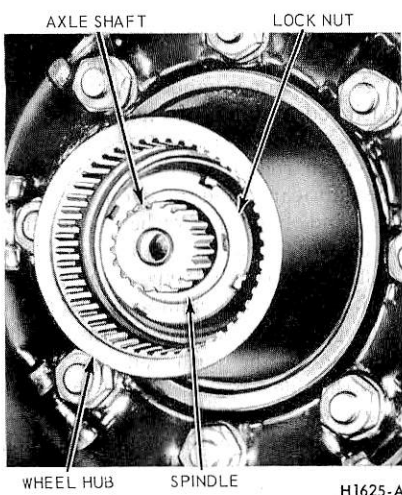

FIG. 27—Front Wheel Hub—
3. Remove the lock nut, washer, and wheel bearing adjusting nut from the steering spindle. Remove the wheel, hub and drum as an assembly (Fig. 27). The wheel outer bearing will be forced off the spindle at the same time. Remove the wheel inner bearing cone.
3. Rotate the wheel in both directions and at the same time tighten the inner locknut to 50 ft-lbs to bring the bearing rollers into proper contact. After the bearings are firmly seated, back off the inner locknut and retighten to 30 to 40 ft-lbs while hub is rotated. Back off the inner locknut 135 degrees to 150 degrees. Assemble the lockwasher by turning the nut to the nearest hole in the washer lock. Install the outer lock nut and torque to 50 ft-lbs. (Fig. 27).